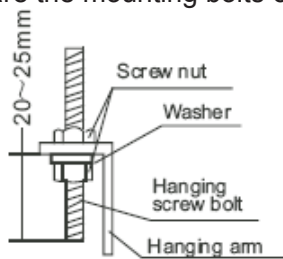

Fig.1-11
2. Locate the hanging arm on the hanging screw bolt. (Refer to Fig. 1-11)